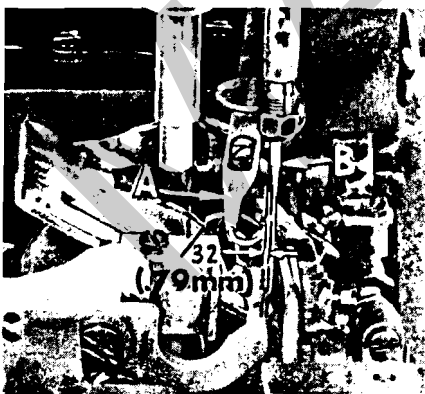
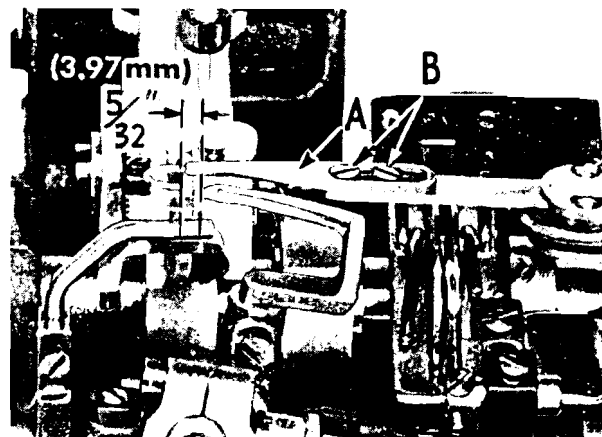

Fig. 18
Fig. 19
As the retainer (A, Fig. 18) passes behind the needle (B), going from right to left, and the point of the retainer hook reaches the right side of the needle, the distance between the back of the needle and point of the retainer should be $1/32$ inch (.79 mm) (See Fig. 18). When the retainer reaches the extreme left end of its travel, the point of the loop retainer hook (A) should be $5/32$ inch (3.97 mm) from the centerline of the needle (See Fig. 19). These dimensional settings can be made by loosening screws (B, Fig. 19), reposition loop retainer hook (A) as required and retighten screws (B).